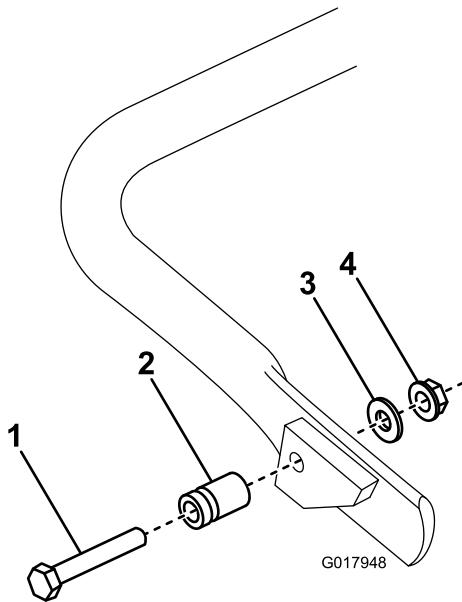

Figure 5
1. On Model 04056 only, connect the spring stud to the right-hand side of the kickstand (Figure 5) using the bolt, washer, and flange nut provided.